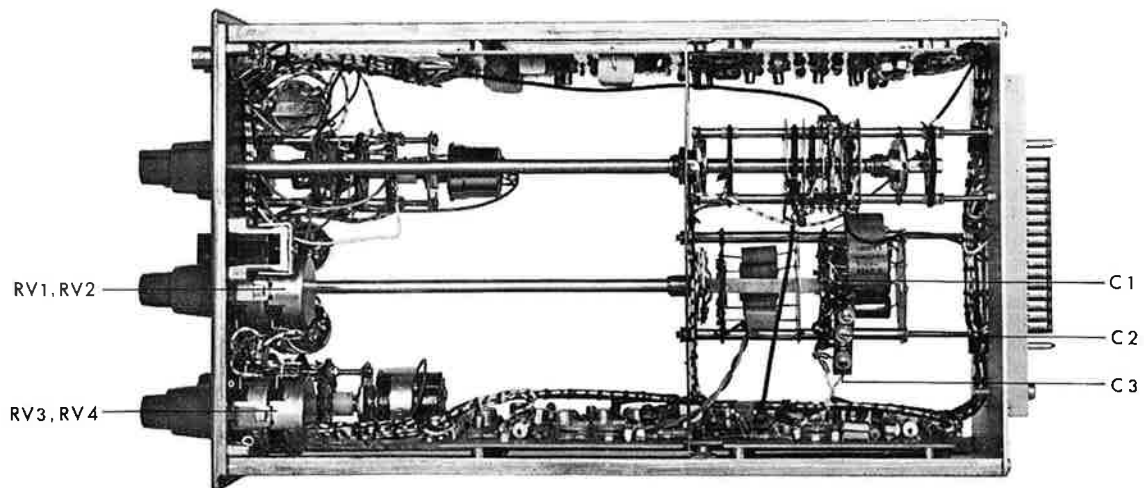

Fig. 5. Bottom view
8. Set TIME/cm to 1 ns, TRIGG./SYNC. to SYNC. and Y_A mV/cm to 20. Adjust RAMP SLOPE CAPACITOR CV3 (fig. 5) so that 1 period fills 10 cm.
9. Set TIME/cm to 2 ns. Adjust CV2 (fig. 5) so that 2 periods fill 10 cm.
10. Set TIME/cm to 5 ns and Y_A mV/cm to 50. Adjust CV1 (fig. 5) so that 5 periods fill 10 cm.